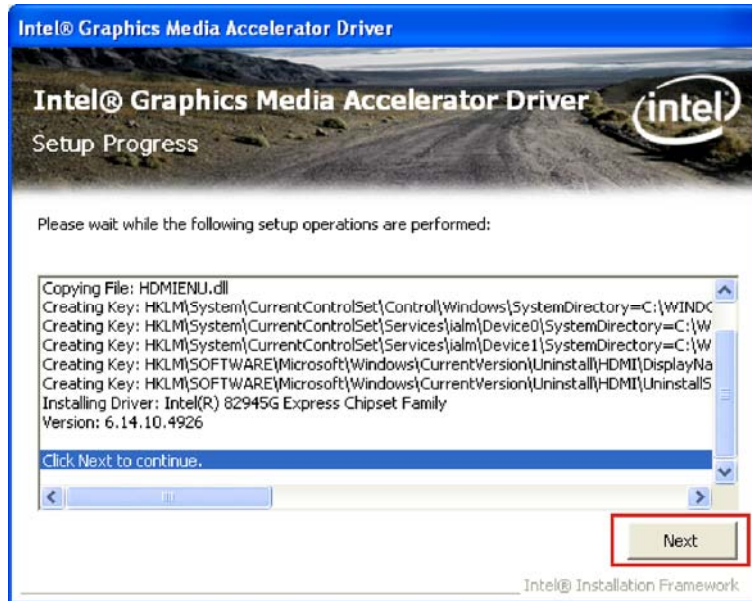

Figure 6-12: Graphics Driver Installation Notice
Step 11: The driver installation progress window appears and shows details for each of the drivers as they are installed (Figure 6-12).